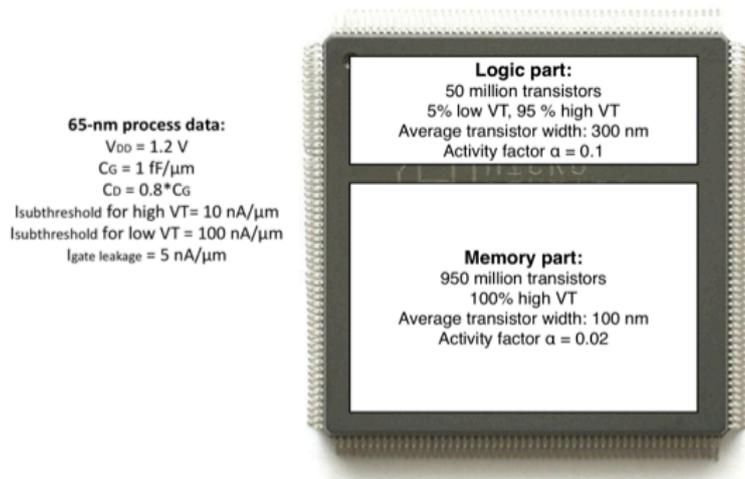

Figure 10.2: Data for the system on chip.
A digital system on a chip has 1 billion transistors. Of these 50 million are used in static CMOS logic gates and the rest are used in memories. The two parts of the chip are illustrated in Figure 10.2, which also includes relevant chip and process data.
- a) Using data from Figure 10.2, estimate the power due to dynamic switching at a clock frequency of 1 GHz, if we neglect the effects of short-circuit current and wire capacitances. (2 p)